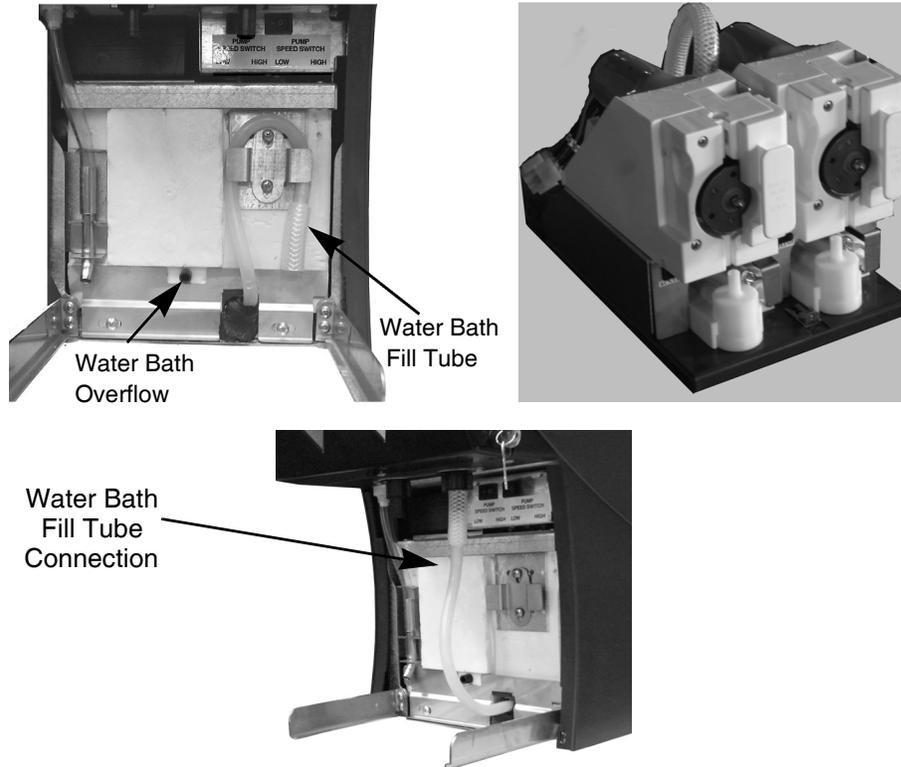

Figure 6. Water Bath and Dispense/Flush Switch
2. Open the door and verify that the flush/dispense switch is in the dispense mode. (see Figure 6) Ice bath must always be filled in the dispense mode.